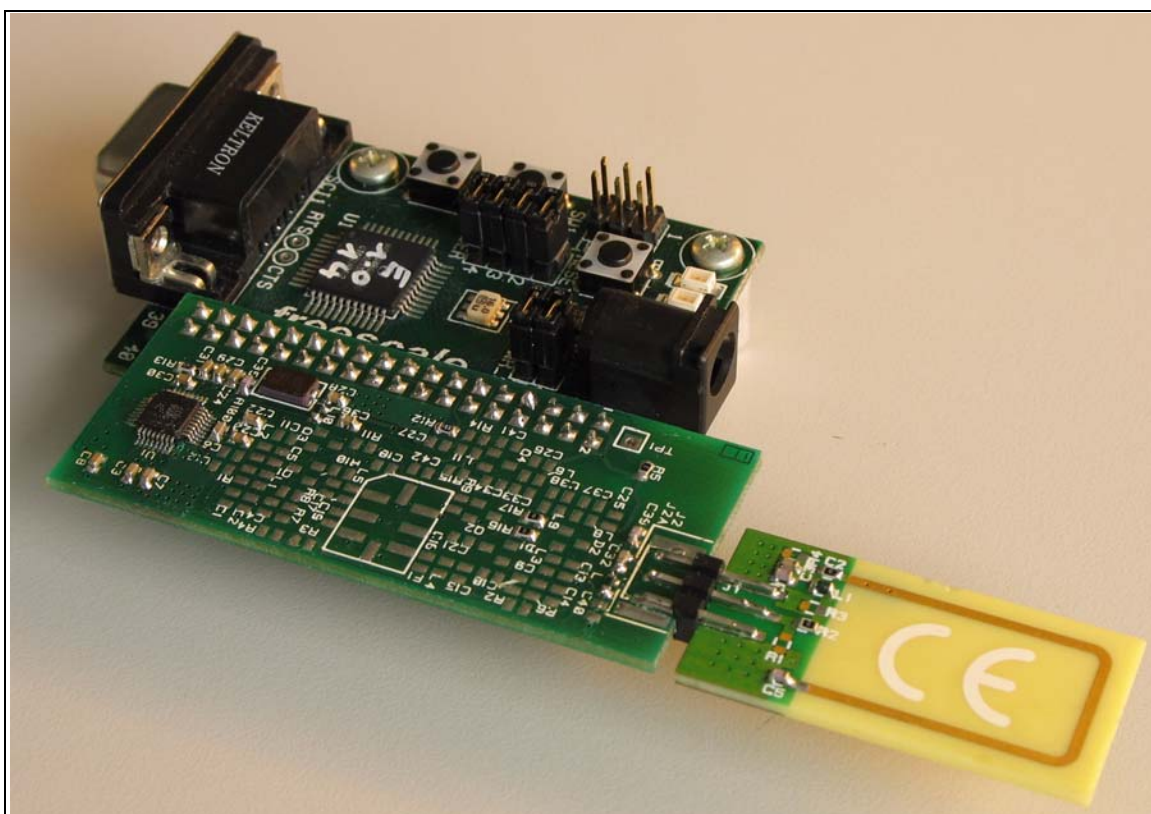

Figure 1. EchoRemote Hardware Setup
1. The MC9S08RG60 demo board and Echo RF module must be configured as described in AN2962, and programmed with the embedded monitor program supplied with AN2962. Figure 1 shows the hardware configuration.